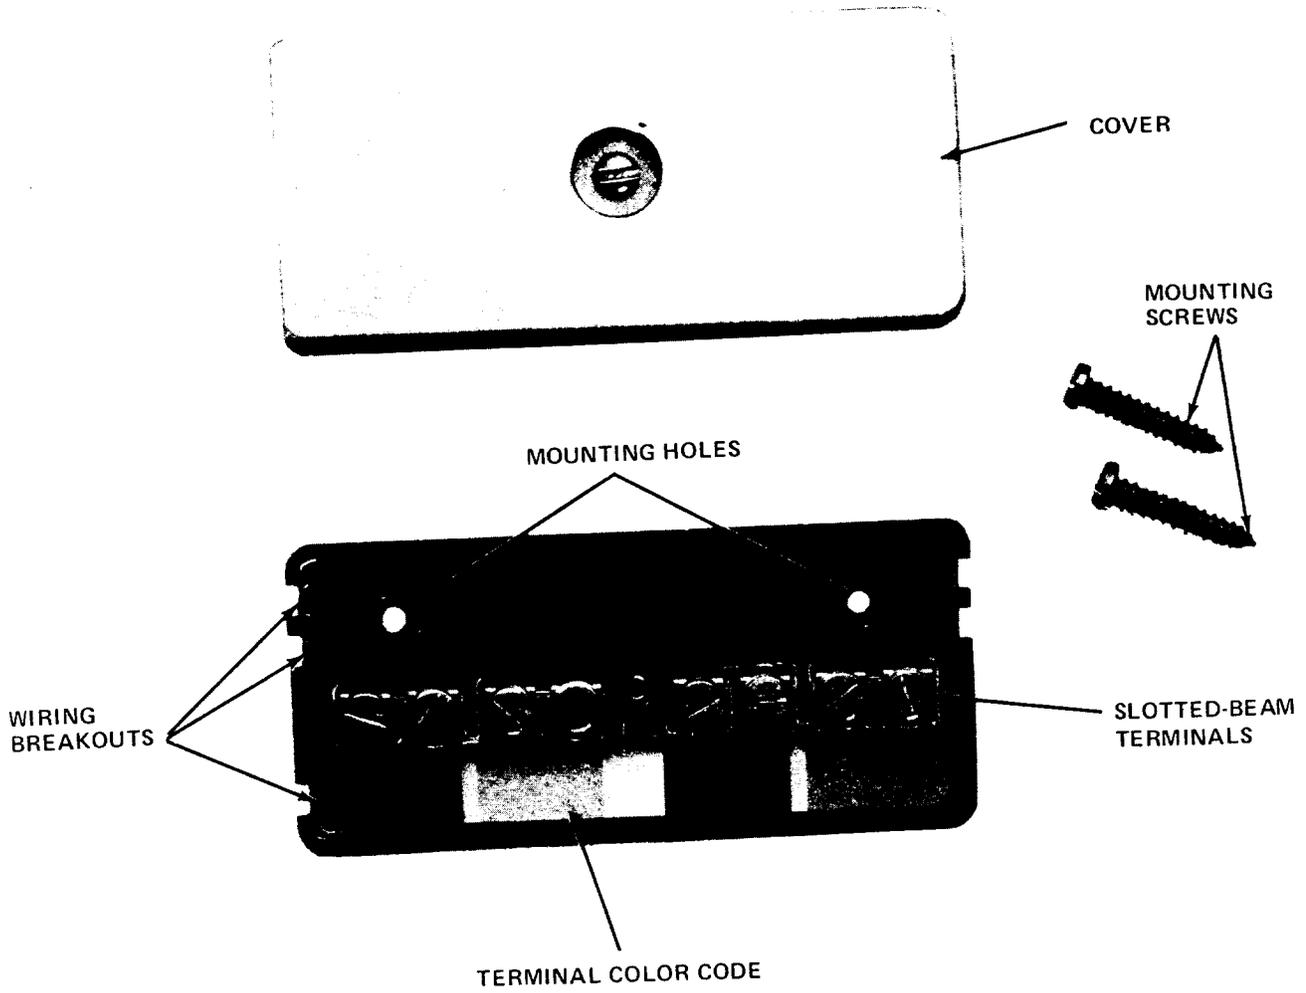

Fig. 9—742B Connecting Block
E. 742B Connecting Block (Fig. 9)